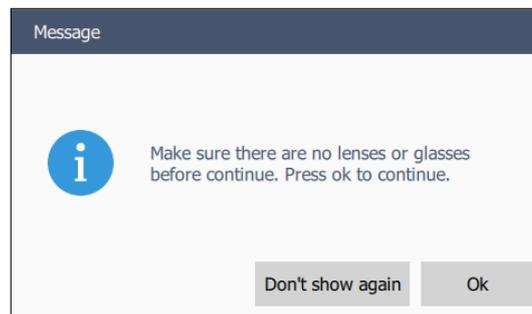

Figure 43: Motion warning pop up
**Reset motion warning:** it restores the pop up inviting the user to remove loaded lenses or glasses when changing the acquisition target between Spectales and Single lens.) (Figure 43).